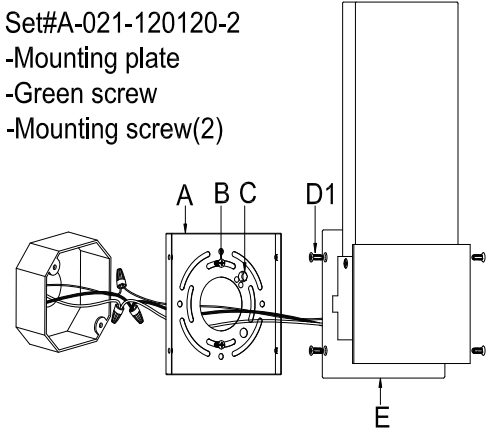

Fig.2
CONNECTION THE WIRES (Fig. 2)
4. At this point, connect the electrical wires as shown in Fig.2, making sure that all wire connectors are secured. If your outlet has a ground wire (green or bare copper), connect the fixture's ground wire to it. Otherwise, connect the fixture's ground wire directly to the mounting plate using the green screw (C) provided. Tuck the wire connections neatly into the junction box.